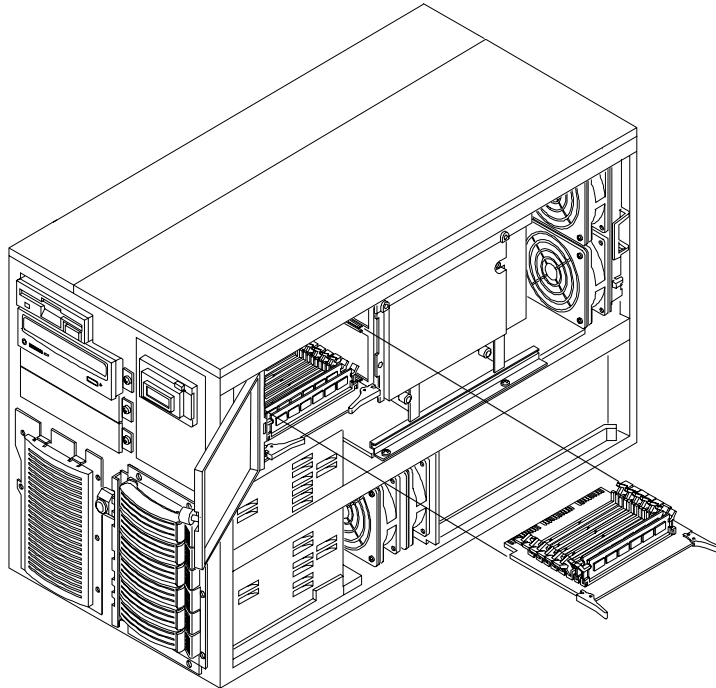

Figure 5-3. Removing Memory Boards
4. Unseat each memory board with the release clips, and remove the two boards (see Figure 5-3).